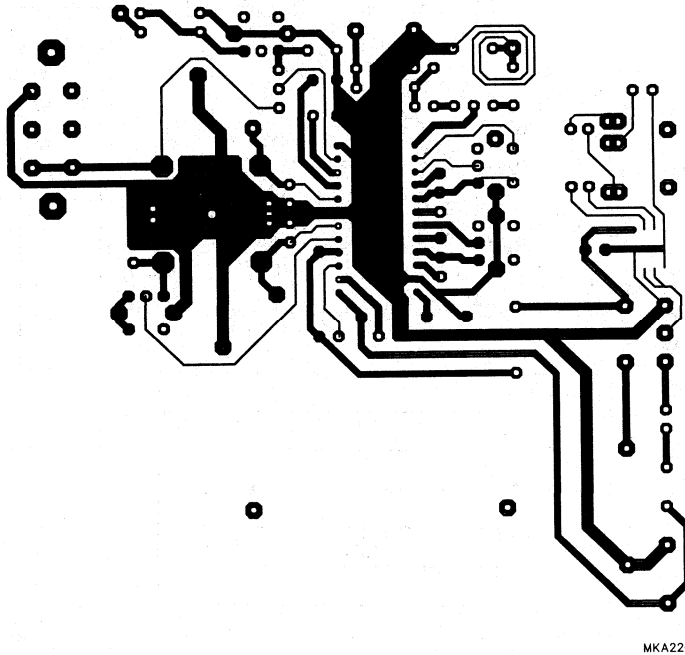

Fig.6 Printed-circuit board layout (track side) for application circuit of Fig.5.
3. For an example of PC-board layout: see Figs 6 and 7.